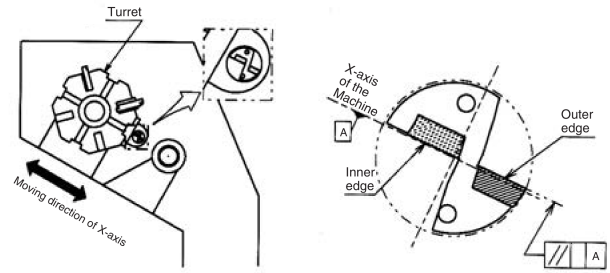

Fig.1 Installed to the Lathe
- (1) The top face of the outer insert should be parallel to the X-axis to allow for offset machining. Drill diameter can be changed by moving X-axis.
- (2) It is recommended to set the outer insert as shown in Fig.1 with the outer insert facing the operator. (Fig.1) (It is also possible to use it by setting it in 180° reverse position) If the lathe has two turrets, when installing the drill into the lower turret, the outer insert should be set to face the operator. (It is also possible to use it by setting at 180° reverse position)